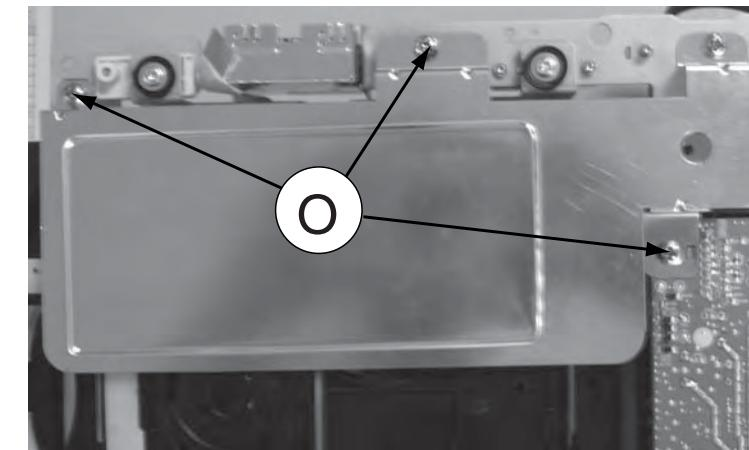

Figure 16
- 1) Loosen 3 screws "O" on the plate\_Tin as shown in figure 16.